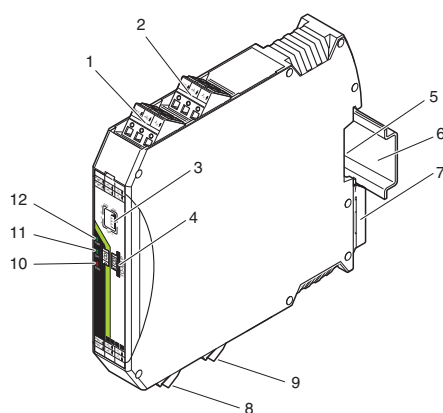

Figure 8-1 SATEL-LP-AI4 structure
A supply voltage of 12 V DC, minimum, is available at the PWR₁ connection terminal block for passive sensors (see Figure 8-1, item 1).